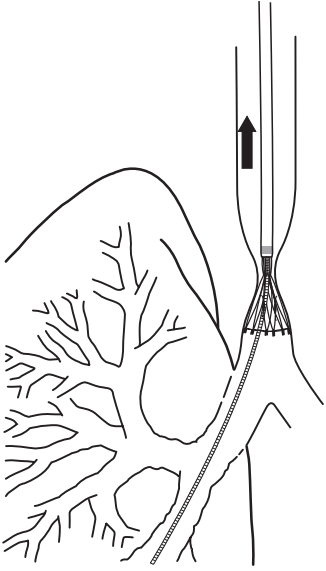

Fig. 6
15. Maintaining position of the stent positioner, under fluoroscopic control, **slowly pull back** the stent introducer sheath with radiopaque marker to deploy the stent across the strictured area. (Fig. 6)